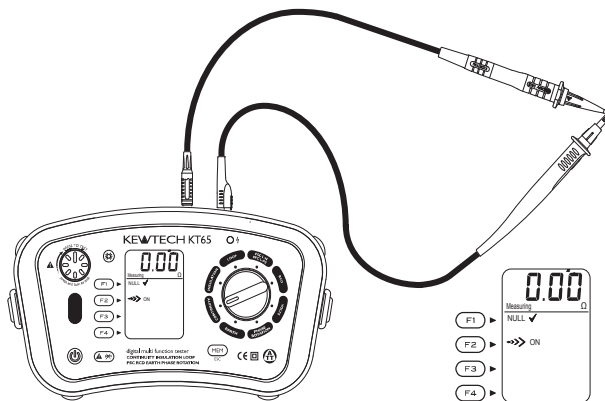

Fig. 13
- 4 Connect the ends of the test leads firmly together (see Fig.13) and press and lock down the test button. The value of the lead resistance will be displayed.
- 6 Release the test button. Press the test button and ensure the display reads zero before proceeding. While using the Continuity null function, "NULL ✓" is displayed on the LCD as indicated in Fig.13. The null value will be stored even if the instrument is powered off. This memorised null value can be cancelled by disconnecting the test leads and pushing the Continuity Null button (F1) with the test button pressed or locked. When this is cancelled you will know because NULL OFF is displayed on the LCD.